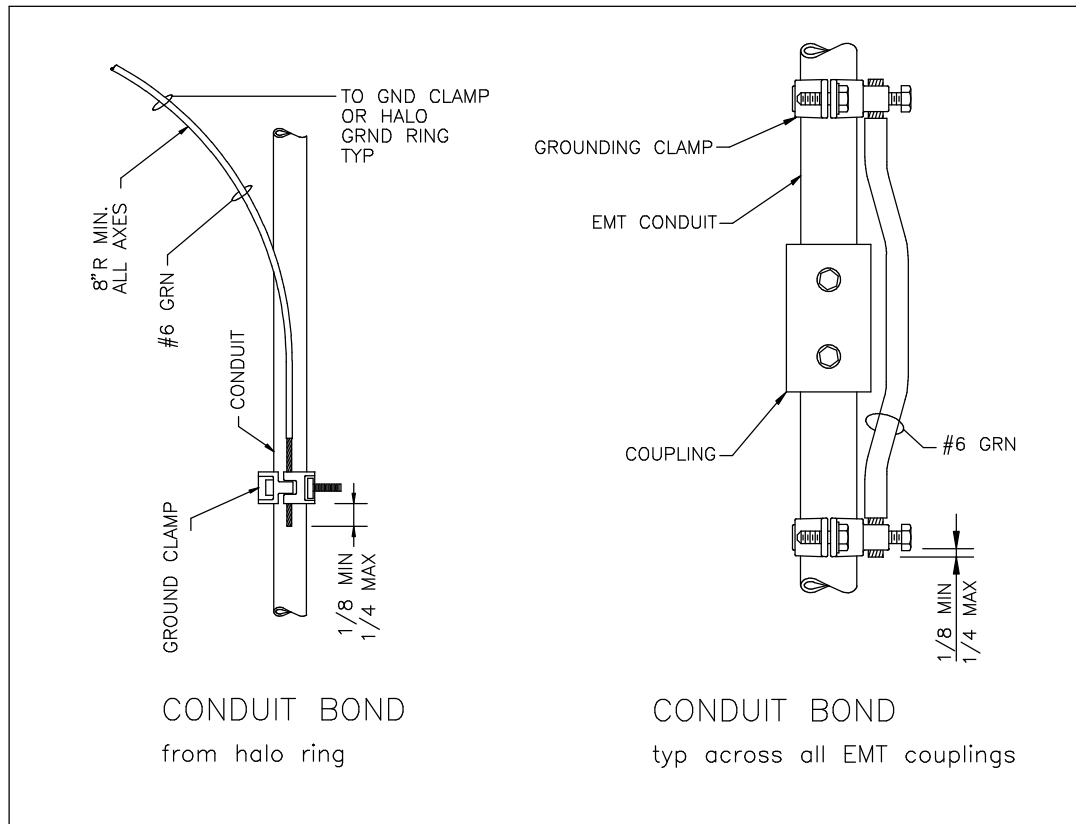

Figure 5 - Typical Conduit Grounding
- 7.5 Conduits and conduit couplings shall be bonded to the ground system in a manner consistent with attached Figure 5.